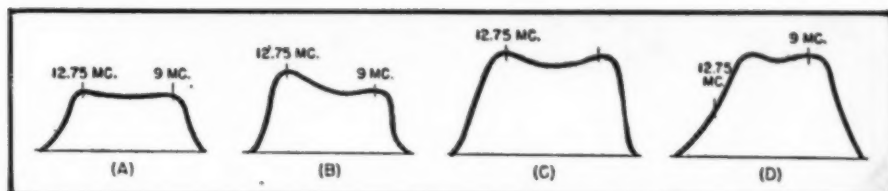

Fig. 4. Curves illustrate i.f. alignment.
4. To use the oscilloscope pattern successfully it must be calibrated in frequency. A frequency marker system is, therefore, installed with the sweep oscillator and is generally incorporated in the same case. Frequency markers are of two types. One type is a simple calibrated resonant circuit which is mutually coupled to the i.f. output of the sweep oscillator. On the frequency to which a resonant circuit is tuned, it will absorb some of the sweep oscillator output and reduce slightly the input to the receiver, causing a small dip to appear in the oscilloscope pattern at that frequency. With this type of marker, the pattern is first properly positioned on the screen using oscilloscope controls and, then, the marker is used to locate specific frequencies on the pattern which can be noted with crayon marks on the scope glass surface. After the marks have been set-up (such as shown in Fig. 4), do not touch the horizontal controls of the oscilloscope because they will have to be recalibrated and marked if the pattern is shifted horizontally. In the better sweep oscillators, a series of built-in marker circuits are used which can be switched in and out at will. This system permits the markers to appear on the pattern at all times, permitting ease in adjustment and not requiring recalibration, when changing test positions or oscilloscope controls.